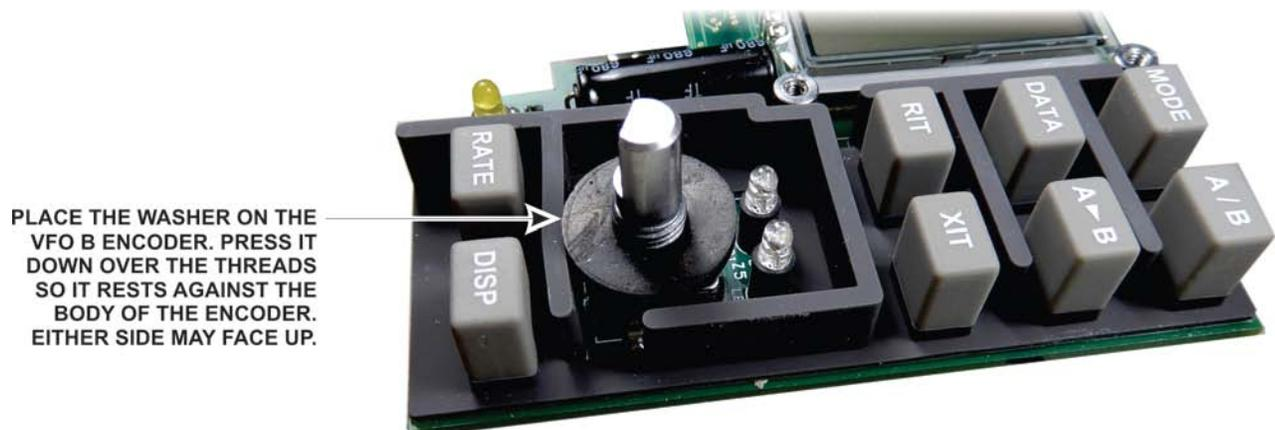

Figure 15. Mounting the Rubber Washer on the VFO B Encoder.
- Place the washer on the VFO B encoder as shown in Figure 15.